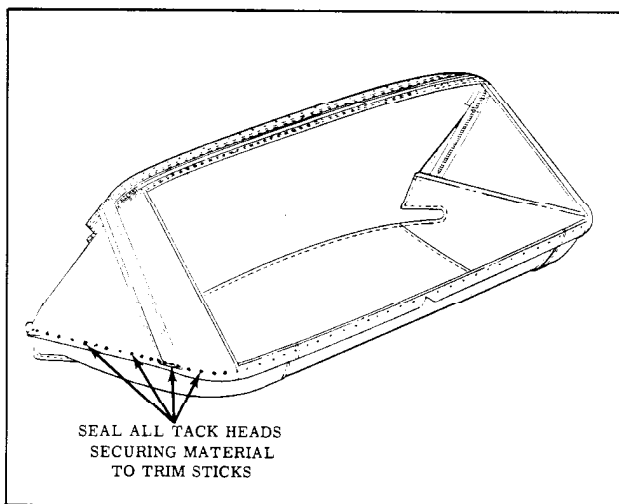

Fig. 17-36 Back Curtain Sealing
23. Apply convertible top sealer around each tack head used to secure back curtain material and webbing to rear and/or rear quarter trim sticks. (Fig. 17-36)